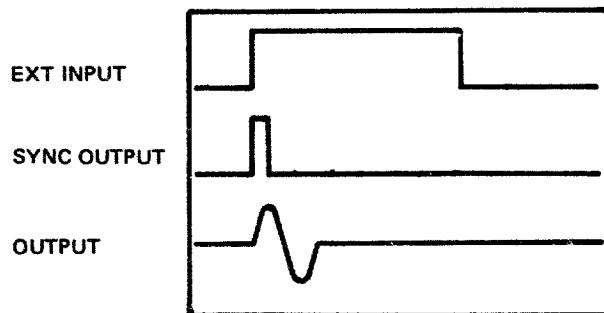

Figure 4-8. Example of correct trigger operation
3. Set ext. function generator for output pulse approx 50  $\mu$ s wide, rep. rate 10 kHz, baseline zero or more negative, pulse top +1 V. Adjust 8116A trigger input level for correct trigger. Verify that each trigger pulse generates one complete output cycle (Figure 4-8).